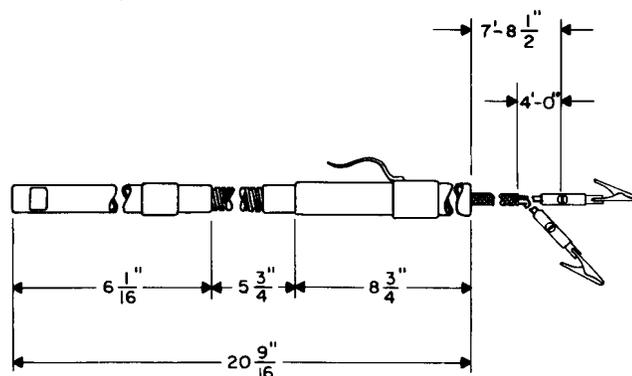

Fig. 1—442A Multiple Inspection Lamp Tool
2.01 442A: The 442A multiple inspection lamp tool (Fig. 1) is used in repairing skimmers and multiple jack connections. This tool is equipped with a W2AL cord; two 360A tools, and two test clips. It is